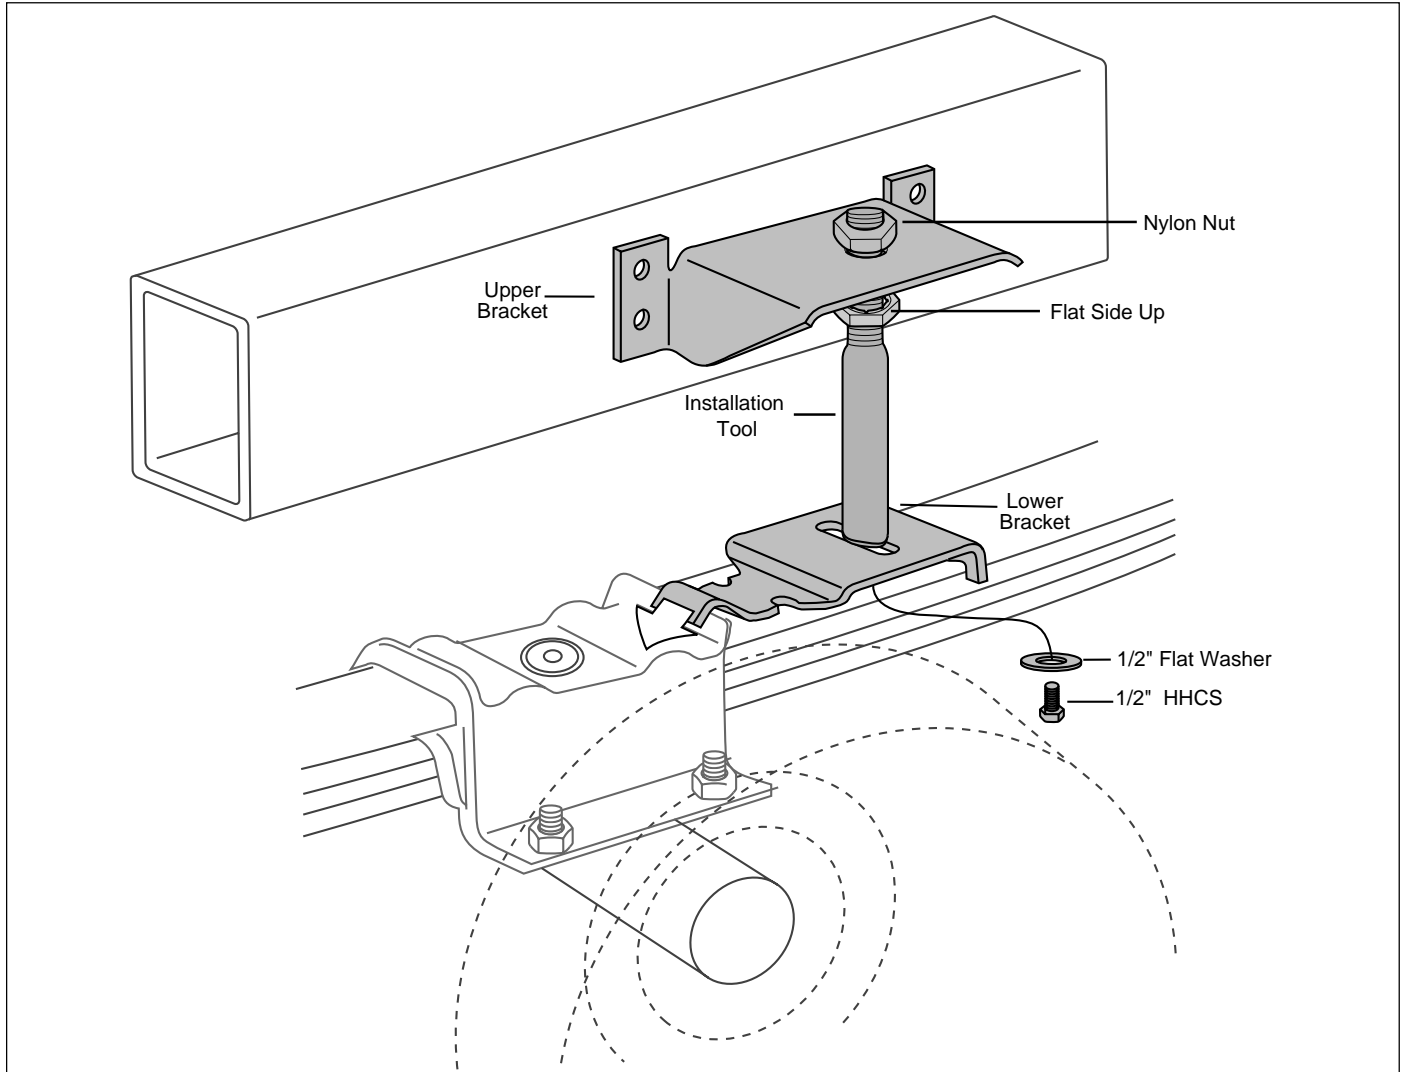
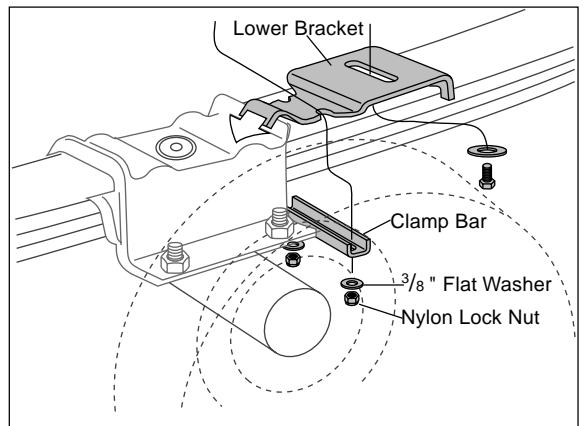

Figure 1
Figure 5
6. Loosely attach the upper and lower brackets to the installation tool using the 1/2" flat washer, 1/2" bolt, and nylon nut (Figure 1). It is important that the hook of the lower bracket hooks over the U-bolt, spring retainer, etc. so that the bracket is secure in place (Figure 5).